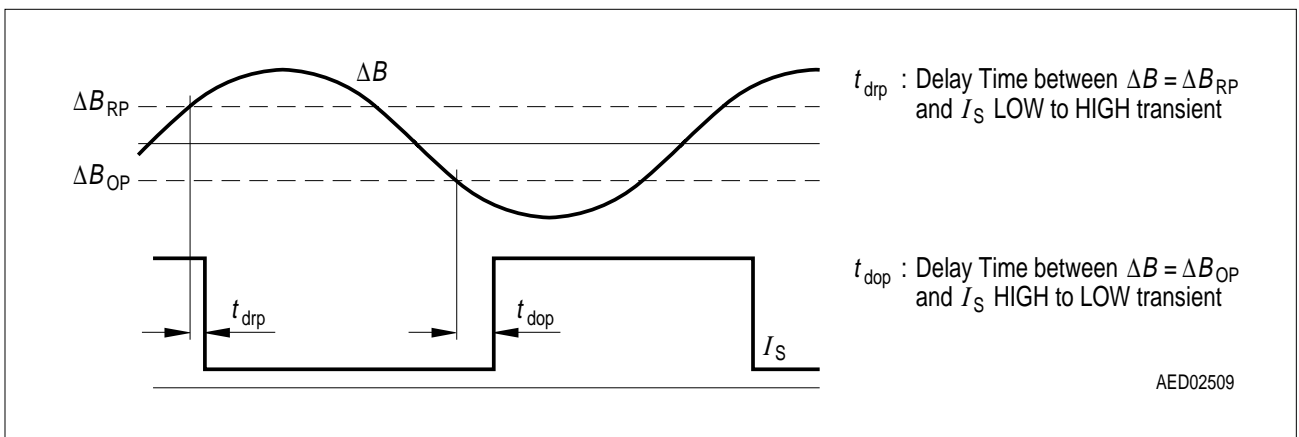

Figure 6 Definition of Delay Times (switching points related to initial measurement @ $\Delta B = 2 \text{ mT}$; $f = 200 \text{ Hz}$)
- 4) For definition see **Figure 6**.